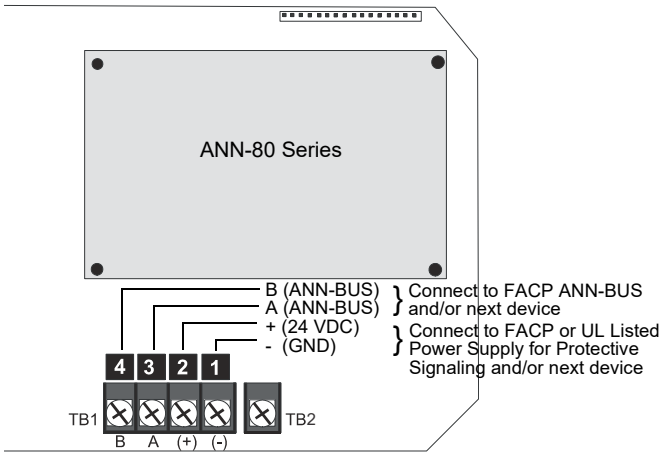
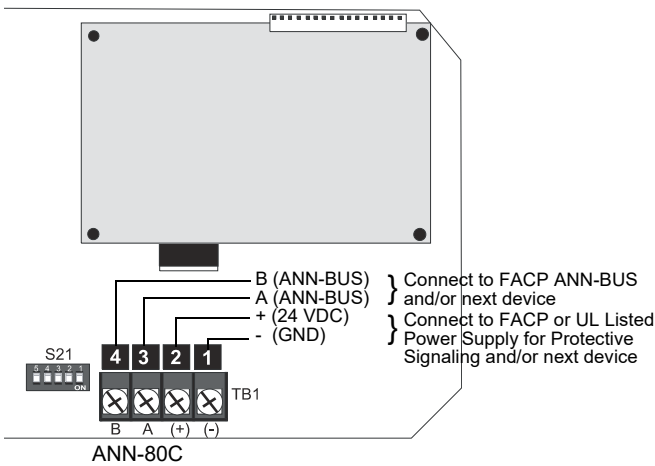

Figure 3 Wiring the ANN-80(-W) to an FACP
Figure 4 Wiring the ANN-80C to an FACP
Refer to Table 1 and Figure 3 for wiring connections.
Notes for Figure 3 and Figure 4:
- pg. 2 12/1/22-wc-added old model wiring back in to support ANN-80C model. (figure 4)